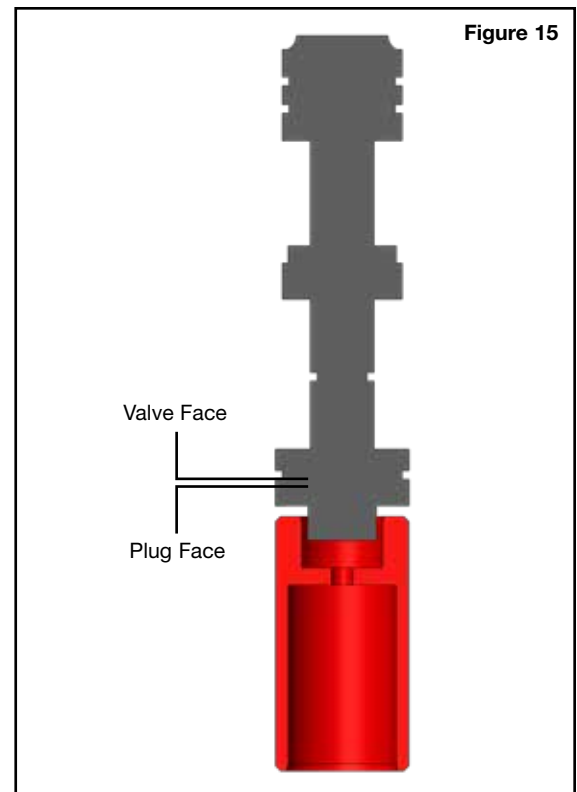

Figure 15
- Verify that the flat face of the plug contacts the flat face of the critical spool of the valve. If they don't contact, valve stem is still too long and will need to be shortened (**Figure 15**).